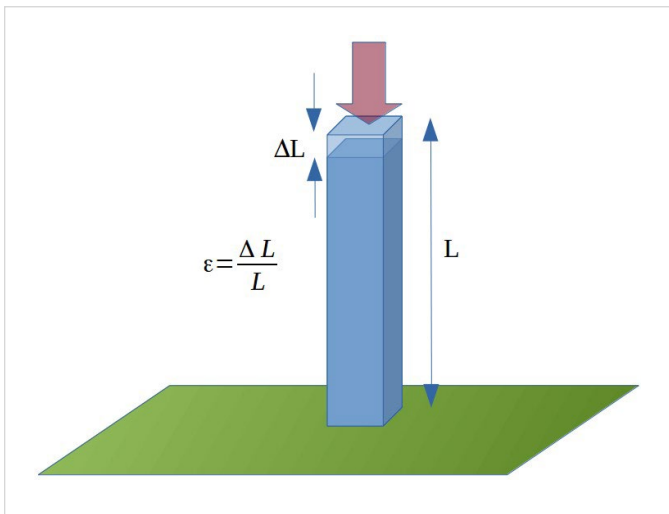

Figure 2: Strain computed from compressed device state in comparison to its quiescent state.
**Figure 2** shows how strain (represented as  $\epsilon$ ) may be calculated as the ratio of the change in length to the known, unstrained length.